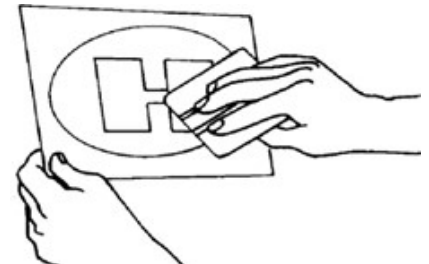

Figure 17. Squeegeeing the EAGF
5. Apply the EAGF using firm squeegee pressure and overlapping strokes. Start at the top of the EAGF in the center, and work out toward the edges and down the graphic. See Figure 17. Release the tack points before squeegeeing those areas of the EAGF to avoid wrinkles.